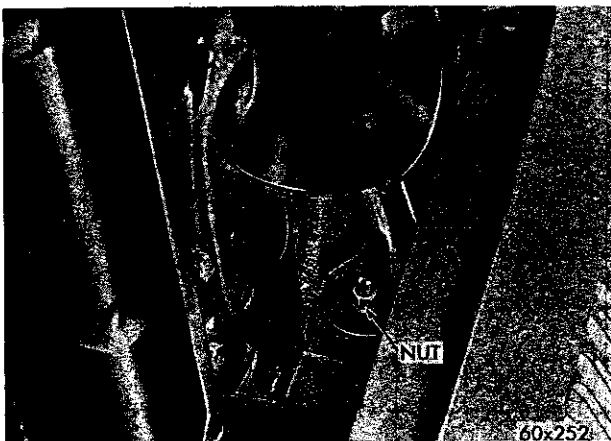

Fig. 9—Radiator Support to Frame Yoke Mounting
- (9) Remove the bolts attaching the front end sheet metal to the stub frame yokes (Fig. 9).
- (10) Disconnect the radiator yoke from the frame.
- (11) Raise the fenders off the mounting studs at the cowl and remove all front end sheet metal, and radiator as an assembly. With all front end sheet metal removed, raise the vehicle on a hoist.
- (12) Disconnect the propeller shaft and the transmission push button cable from the transmission. Disconnect the exhaust pipe at the front of the muffler. Disconnect the parking brake cable.
- (13) Remove the jacket tube at the instrument panel.
- (14) Disconnect the steering gear tube at the lower coupling. Disconnect the coupling from the steering